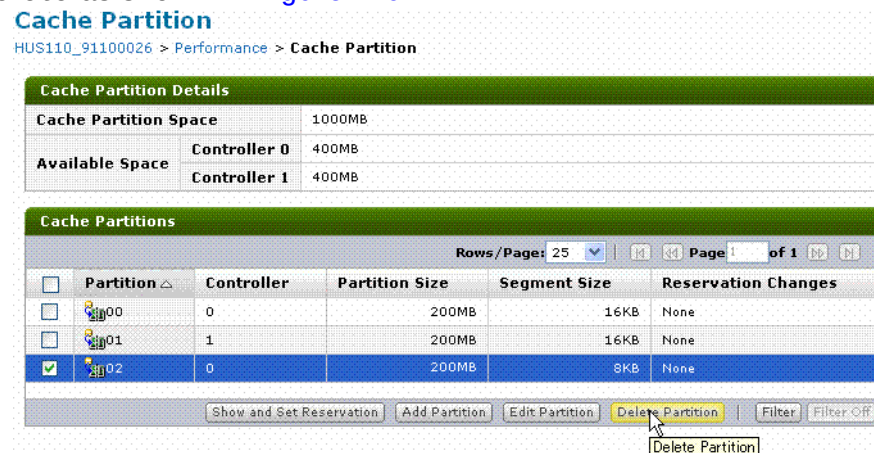

Figure 7-6: Cache Partitions window - deleting a cache partition
5. Select the cache partition number that you are deleting, and click **Delete** as shown in Figure 7-6.